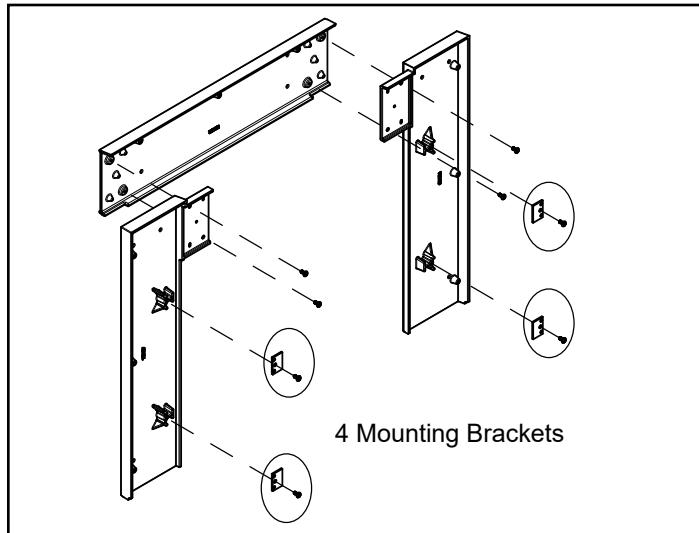

Figure 21.1
4. Attach the mounting brackets to the side pieces included with the kit (Figure 21.1).